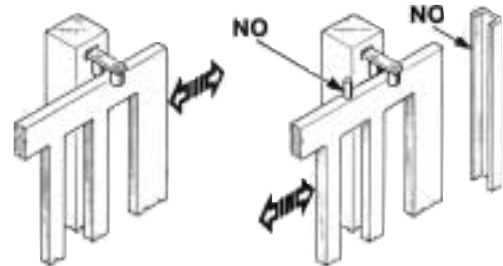

Fig. 3
Gate columns shall have anti-derailment guides on their top (Fig. 3), to avoid the unintentional gate release.
**N.B.:** Eliminate those mechanical stops of the kind described by figure 3.